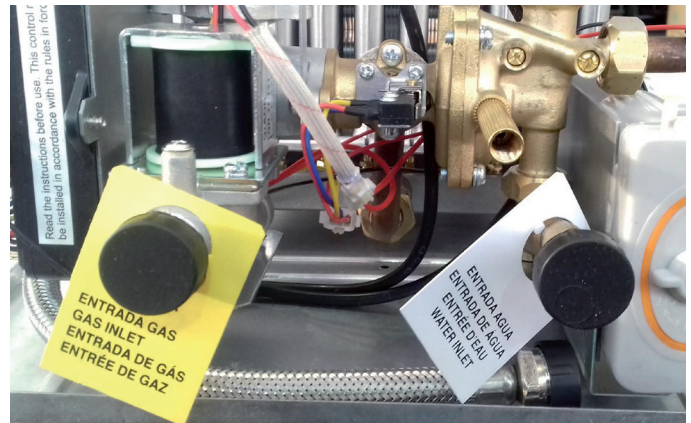

fig. 9 - Connection cards
- Remove the plugs from the water and gas connections (see fig. 9).